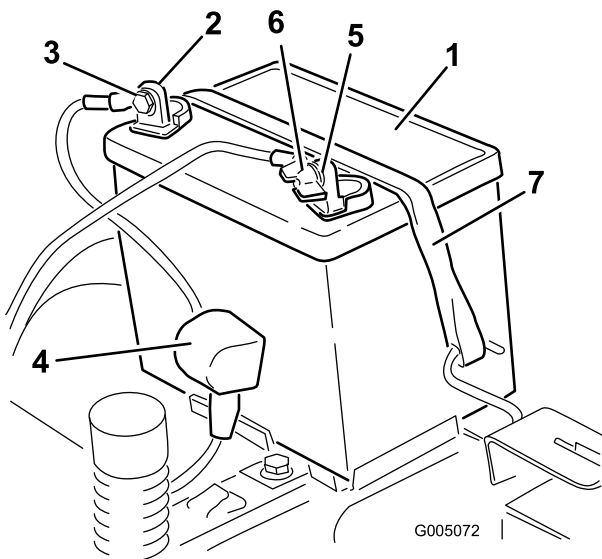

Figure 35
4. Disconnect the negative (black) ground cable from the battery post (Figure 35). Retain all fasteners.
5. Slide the rubber cover up the positive (red) cable. Disconnect the positive (red) cable from the battery post (Figure 35). Retain all fasteners.
6. Remove the battery hold-down and lift the battery from the battery tray (Figure 35).
1. Position the battery in the tray (Figure 35).
5. Secure the battery with the hold-down (Figure 35).